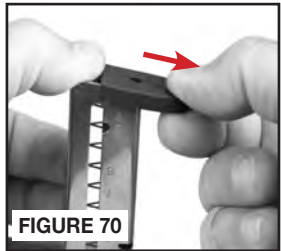

FIGURE 70
- Once the catch is unlocked, slide the butt plate off of the tube slowly while controlling the butt plate catch in the tube against spring pressure (FIGURES 70 and 71).